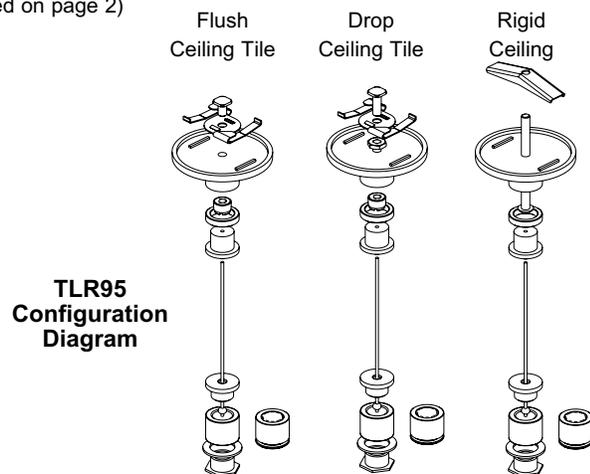

Figure 1
1. Based on Figure 1, select the TLR95 components that correspond to the current application (note: all parts in kit will not be used).
- * If using the TLR95 with a drop ceiling tile, thread the #10-32 nut about halfway onto the installed T-bar grid clip / screw assembly (reference figure 1). Push the canopy over the screw until it stops on the #10-32 nut; adjust the height of the #10-32 nut until the canopy sits flush with the bottom of the ceiling tile.
- * Insert the 3" bolt through the hole in the center of the canopy and start the toggle wing on the end of the 3" bolt (reference figure 1). While holding the toggle wing closed, insert the assembly through the 5/16" hole in the surface. Pull down slightly on the canopy while tightening the 3" bolt until the toggle wing is adequately securing the assembly.